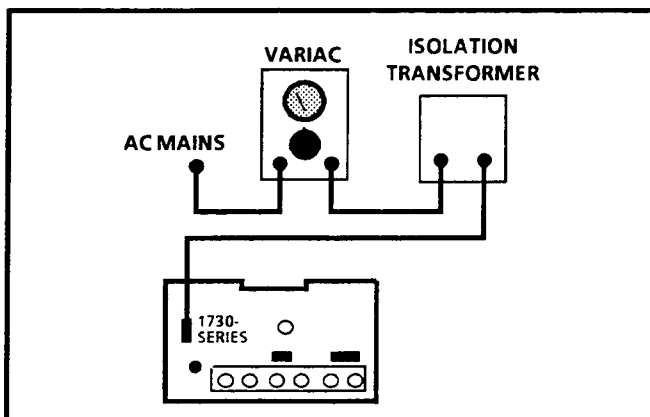

Fig. 6-5. Connecting the ac mains to the 1730-Series, for troubleshooting.
2. Plug the 1730-Series power cord into the Isolation Transformer. See Fig. 6-5.